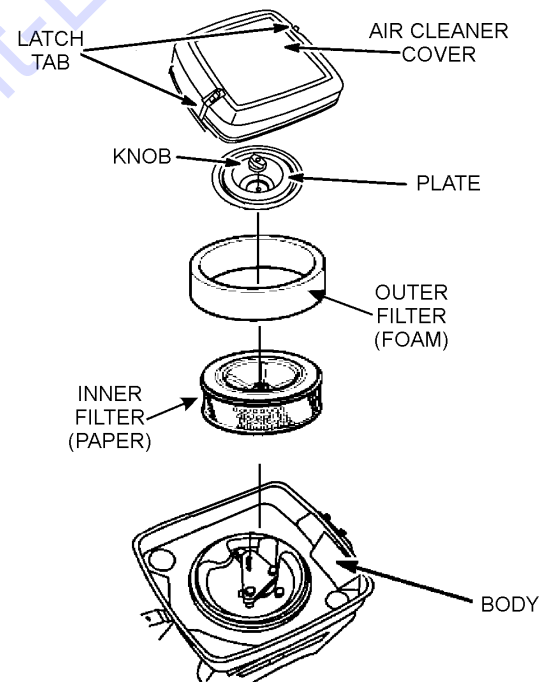

Figure 32. Air Filter Components
1. Release the latch tabs (Figure 32) on each side of the air cleaner cover, and remove cover.